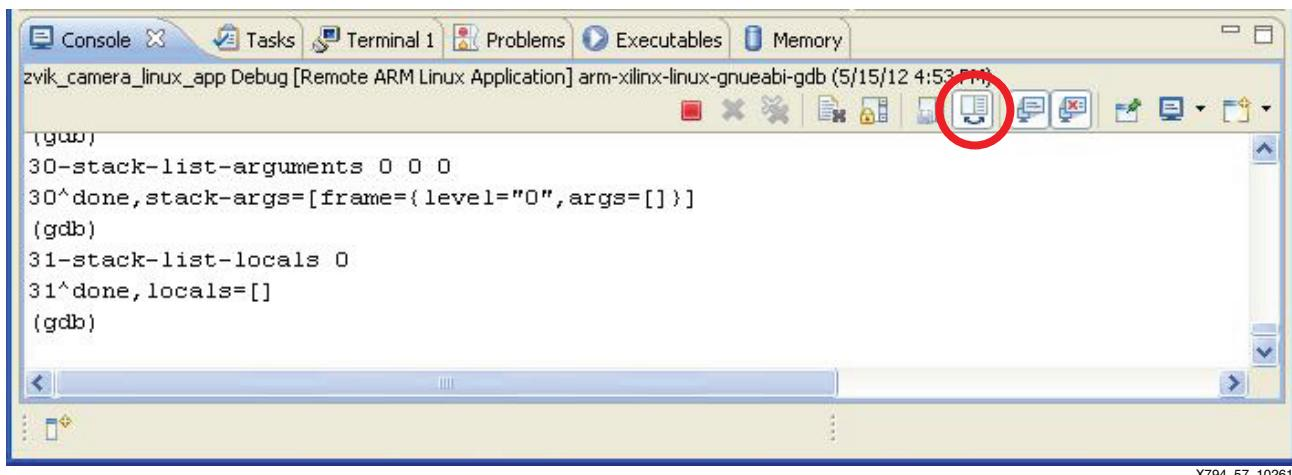

Figure 57: Verbose Console Mode
11. In the Console tab, click the verbose console mode button as shown in Figure 57 to disable the verbose console mode.